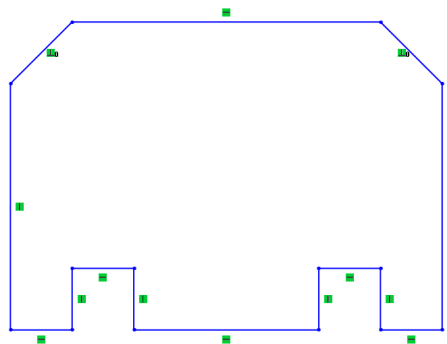

Figure 2-70 Outer loop of the sketch
21. Choose the **Zoom to Fit** tool from the **View (Heads-Up)** toolbar to fit the current sketch into the screen. The outer loop of the sketch is completed and is shown in Figure 2-70. Note that in this figure, the grid display is turned off for better visibility. To turn off the grid display, right-click in the drawing area and then choose the **Display grid** option from the shortcut menu displayed.